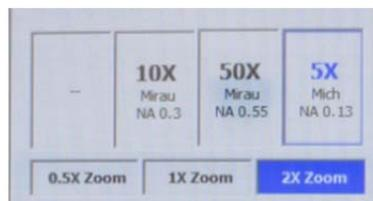

Figure 3
3. Switch the objective lens to 5X by clicking on the 5X box in the left column of the software screen (Figure 3). Note: Always start with the 5X lens for focusing before doing any measurement.